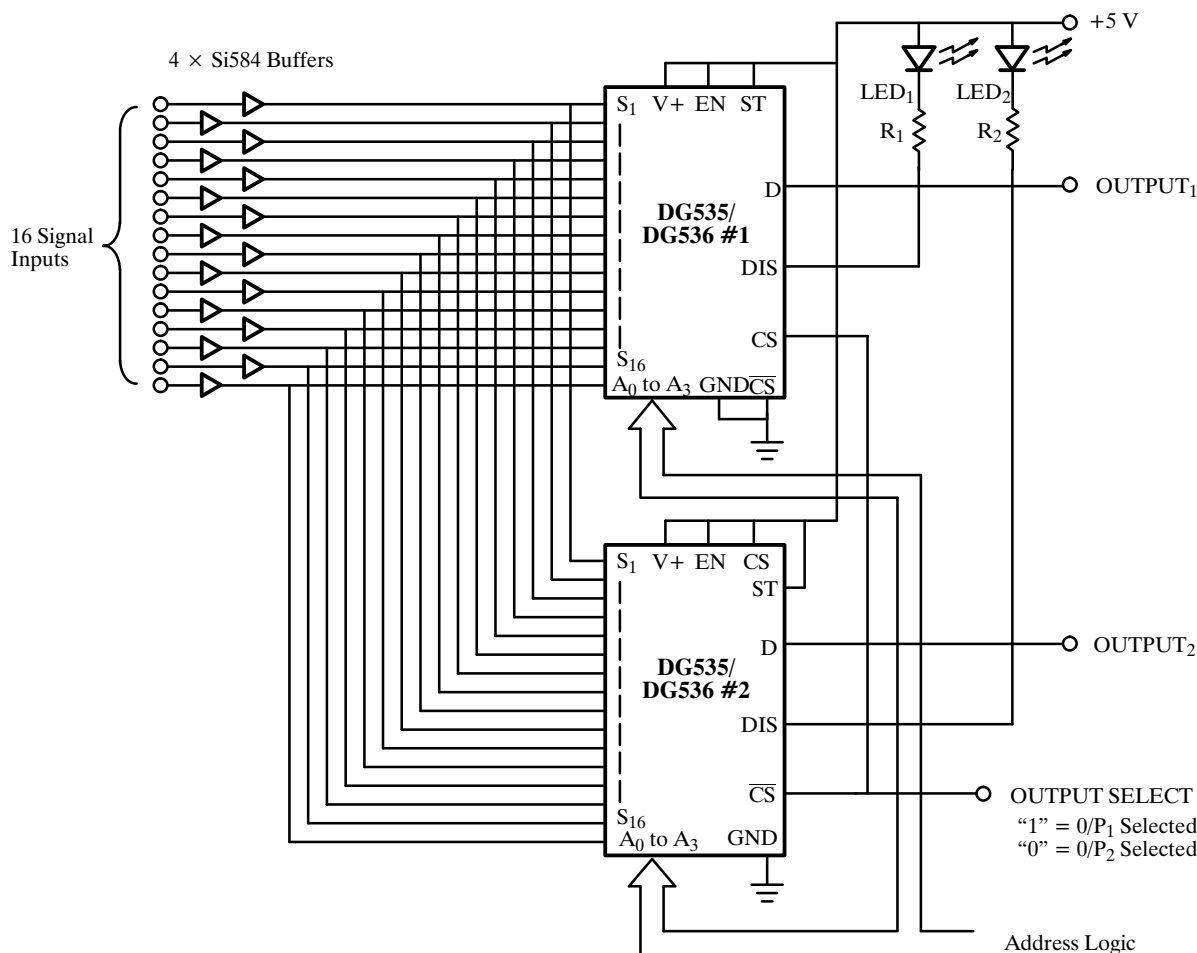
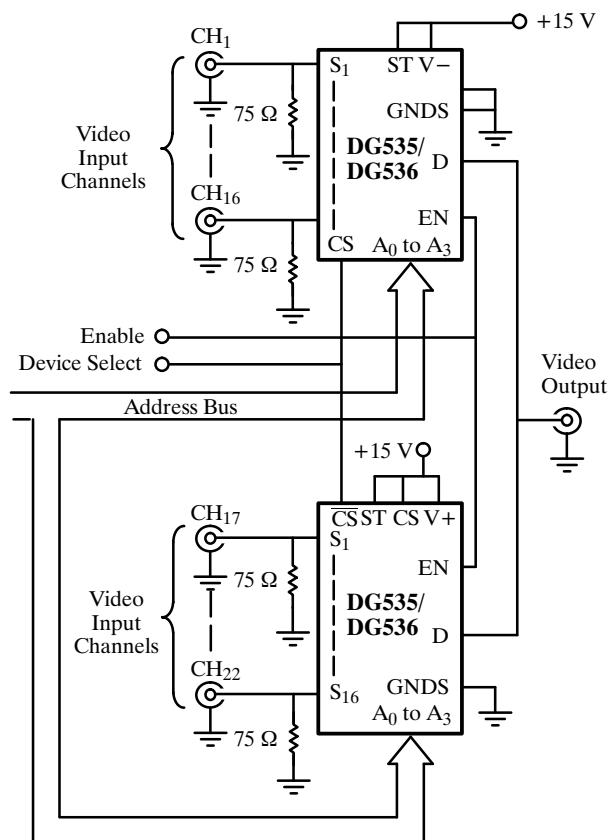
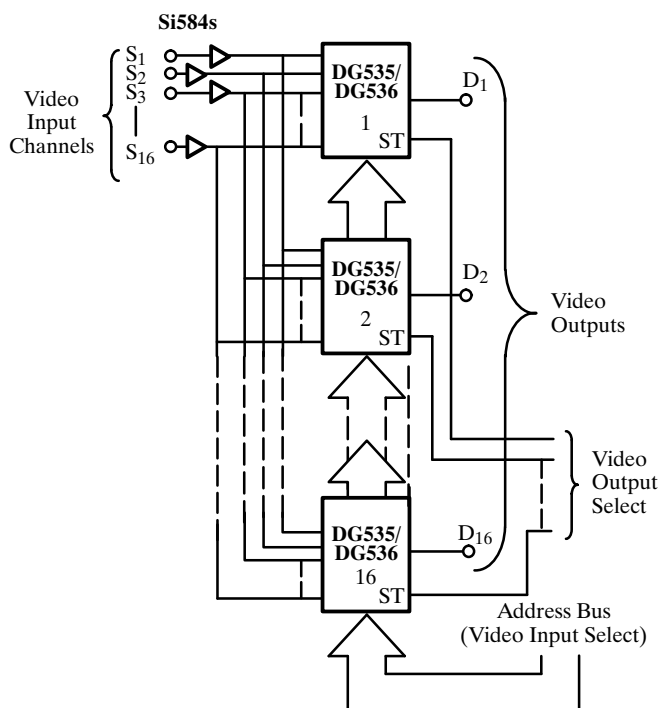

Figure 11. The DG535/536 as a 16 x 2 Matrix Switch
Figure 12. 32-Channel Multiplexer
Figure 13. 16 x 16 Video Crosspoint Circuit
Figure 11 illustrates how the DIS (disable) pin can be used to indicate which output is selected. When logic 1 is applied to output select, device 1 is enabled and device 2 is disabled. With device 1 enabled, the DIS pin is connected to signal ground, thus turning LED 1 on. With device 2 disabled (due to  $\overline{CS}$  being 1), its DIS pin represents a high impedance to ground and LED 2 is off.
The circuit in Figure 11 also illustrates how the chip select inputs can be used. As shown in Figure 12, a 32-channel single-ended multiplexer can be configured without external chip select circuits. This circuit makes use of the CS and  $\overline{CS}$  inputs which allow device selection from a single control line.
The basic circuit shown in Figure 11 can be extended and elaborated to give a 16 x 16 matrix for video crosspoint applications such as central routers used in video studios. This circuit, shown in Figure 13, allows source (or video input) to be connected to any video output (or any number of outputs). The strobe input (ST) on each device is used to latch the appropriate address into that particular device. By strobing the required address into each device sequentially, any crosspoint connection can be made.
The circuit shown in Figure 13 can be used as a digital cross-point to replace expensive, power consuming ECL crosspoint ICs. Besides handling raw digital data, the DG535/536 can also be used for other forms of data transmission, such as FSK and PCM systems.
RZ (returns to zero) PCM data consists of three discrete (ternary) levels to overcome long periods of zeroes (Figure 13). Digital signals can degrade beyond legibility after only a few hundred yards of travel down a transmission line. Therefore, the PCM signals must be regenerated at regular distances to avoid excessive distortion.